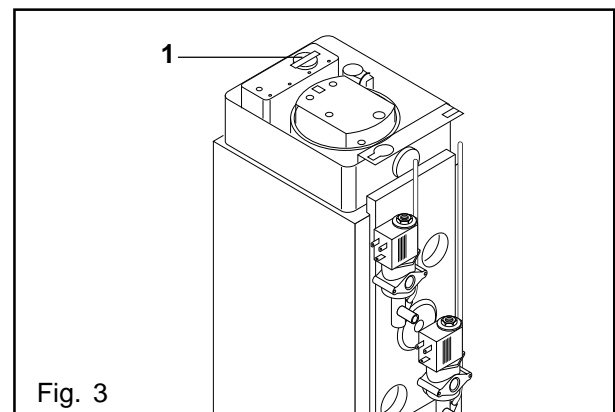

Fig. 3
- The bimetal switch of the overboil sensor (1, Fig. 3) is triggered when the temperature in the overflow exceeds 85 °C. The sensor must be reset manually to its original position. The boil over sensor and the dry running protection switch off the 24 V supply of the safety protector (safety circuit).